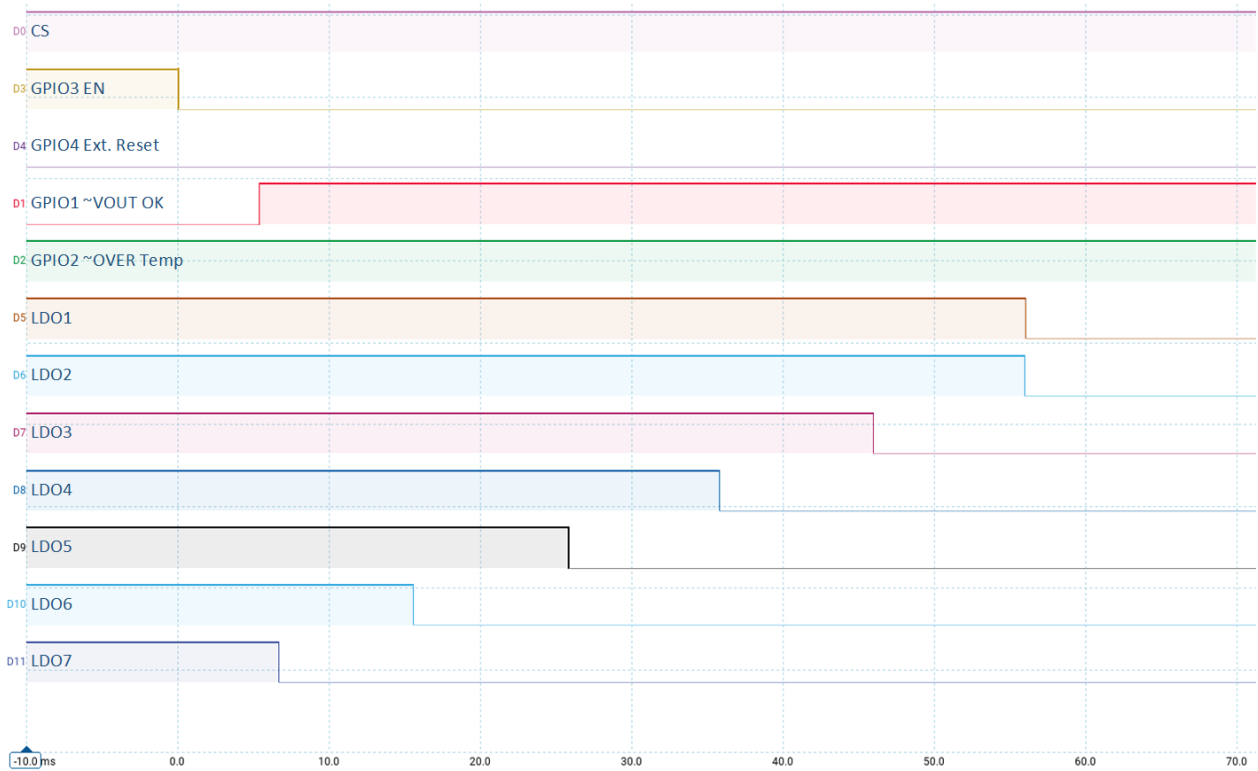

Figure 8: Power DOWN Sequence via GPIO3: EN
Figure 8 shows the operation of the Power Sequencer block as a part the SLG51000. Once GPIO3 (EN) is toggled from high-to-low, the LDOs begin to turn OFF one by one. After the first LDO is turned OFF, GPIO1 (~VOUT OK) goes high.